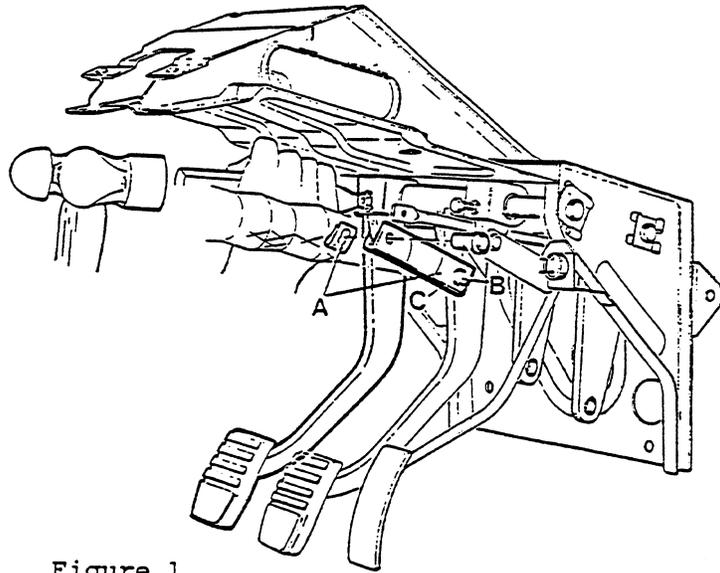

Figure 1
The clutch pedal stop bolt and weld nuts must be removed to permit the pedal to be raised. To carry out this operation, the following procedure should be observed (Figure 1).
- D) Using a hammer and sharp chisel carefully shear off the 10 mm clutch stop nuts welded on both sides of the pedal box (Figure 1).